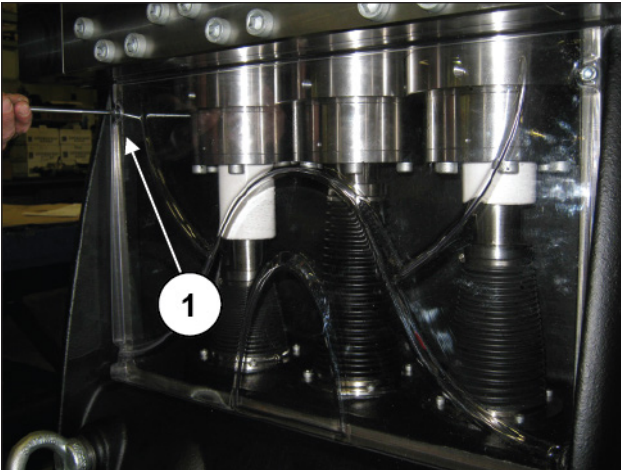
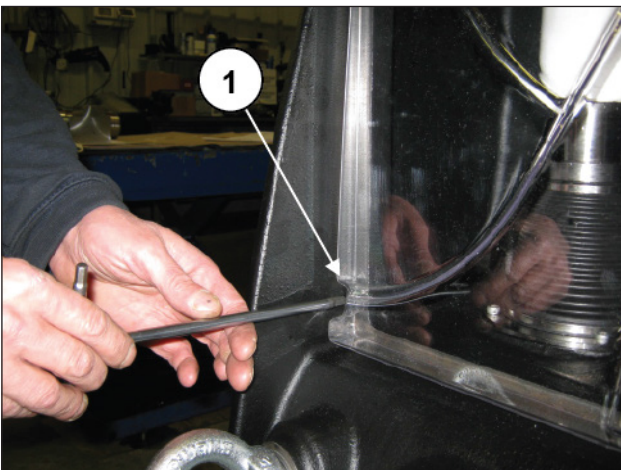

Fig. 243
Fig. 244
Now refit the upper inspection cover and secure it by carefully tightening the 4 M6 fixing screws (pos. ①, Fig. 243 and Fig. 244).